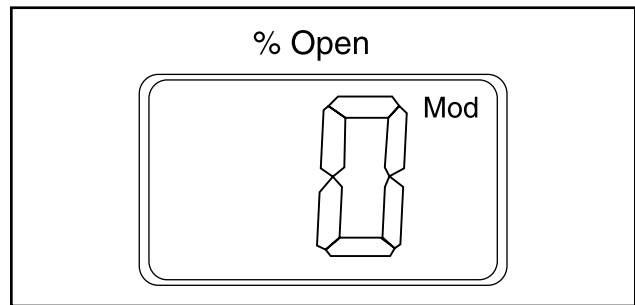

Figure 24
- To exit from the Parameter list and return to the display of Opening Degree (OD), keep the push button activated for 2 seconds.
- Display (Figure 24)